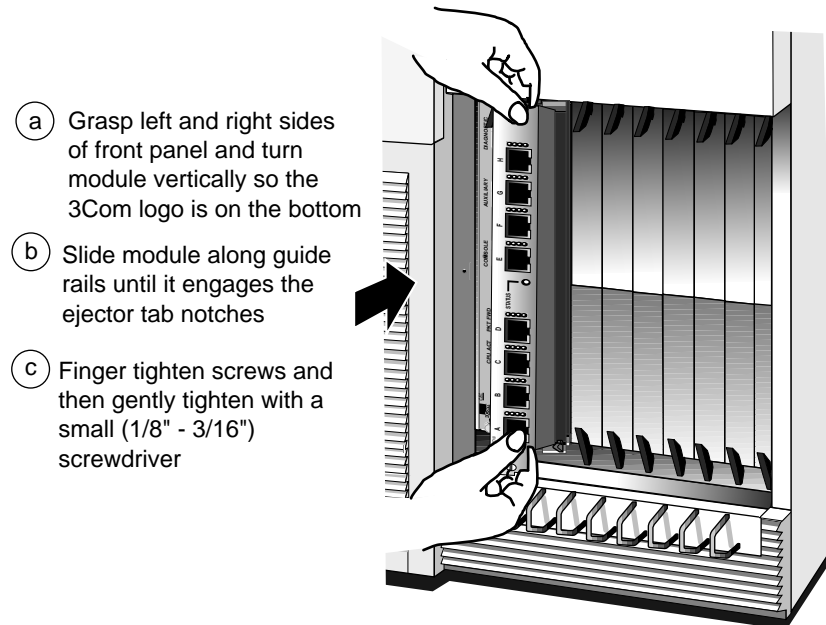

Figure 1-6 Inserting an 8-Port BRI Module into an Extended Chassis
- Slide the 8-Port BRI module into the slot. See Figure 1-6.